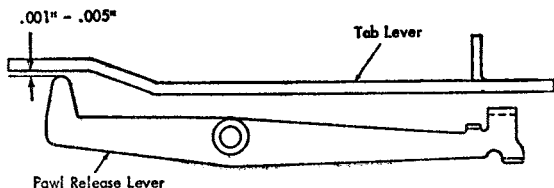

Figure 1. Pawl Release Lever
4. **PAWL-RELEASE LEVER.** Form the angular tip at the left end of the pawl-release lever so that there is a clearance of .001" to .005" between the angular tip and the tab lever with the parts in their rest positions (Figure 1).